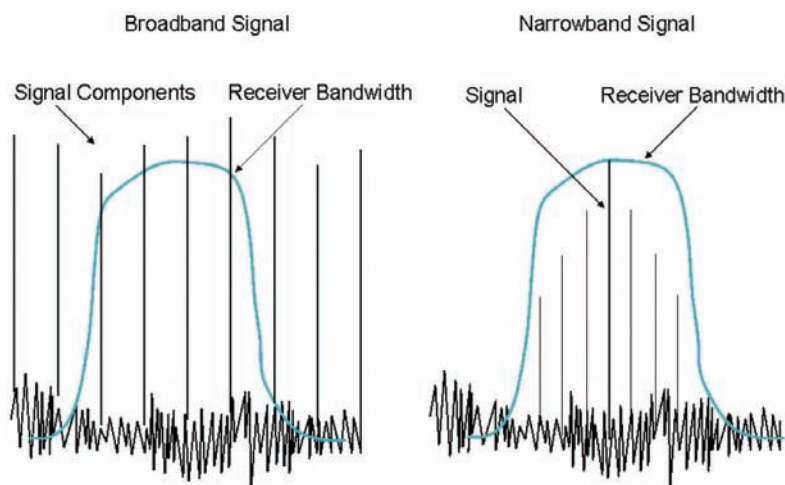
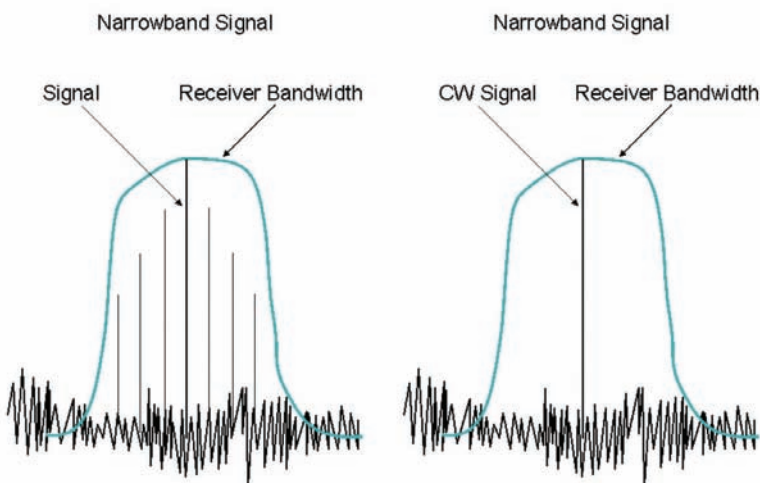

Figure 1: Generic definition of narrowband and broadband signals
Figure 2: Two different types of narrowband signals
In the field of EMC, the two main categories of signals encountered are of particular importance: narrowband signals and broadband signals. The International Electrotechnical Vocabulary (IEV) defines a narrowband disturbance as “an electromagnetic disturbance, or component thereof, which has a bandwidth less than or equal to that of a particular measuring apparatus, receiver or susceptible device.” Consequently, a broadband disturbance is defined as “an electromagnetic disturbance which has a bandwidth greater than that of a particular measuring apparatus, receiver or susceptible device.” This means that the classification of a signal as narrowband or broadband is determined by the occupied frequency spectrum of the signal under investigation, relative to the resolution bandwidth (RBW) of the instrument used for measurement. If the signal spectrum is completely contained in the passband of the IF filter, it is defined as a narrowband signal. The general definition of a narrowband and broadband signal is depicted in Figure 1. It is important to note that continuous wave (CW) signals are a specific case of narrowband signals, since they consist of only one spectral line which is within the passband of the intermediate frequency (IF) filter. This case is depicted in Figure 2 (right). If the occupied signal spectrum exceeds the bandwidth of the filter, the signal is considered to be broadband. This is the case for the spectra of pulses (which are coherent signals) and noise (non-coherent signals). This scenario is shown in Figure 1 (left). This article presents various methods that are suggested for the determination of signal characteristics in EMC standards and literature. It also discusses their advantages and disadvantages. The presented material builds on previous papers that addressed the measurement of impulsive signals and discussed test equipment parameters such as the definition of impulse bandwidth and the purpose of preselection. Therefore, this article will defer to previous publications for details, as necessary.